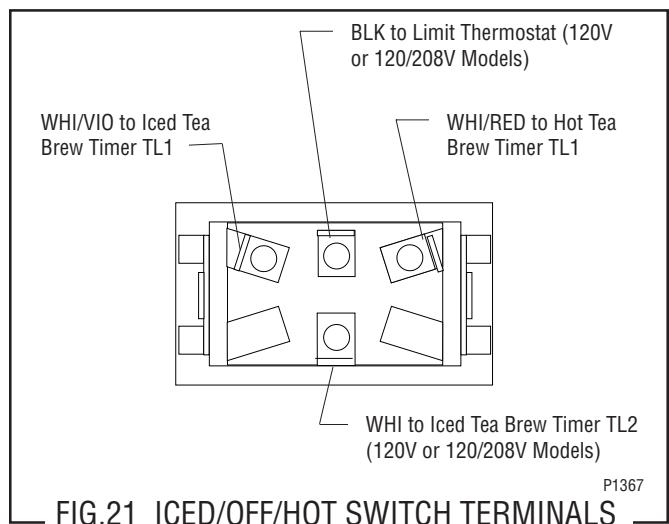

FIG.21 ICED/OFF/HOT SWITCH TERMINALS
4. Refer to FIG. 21 when reconnecting the wires.